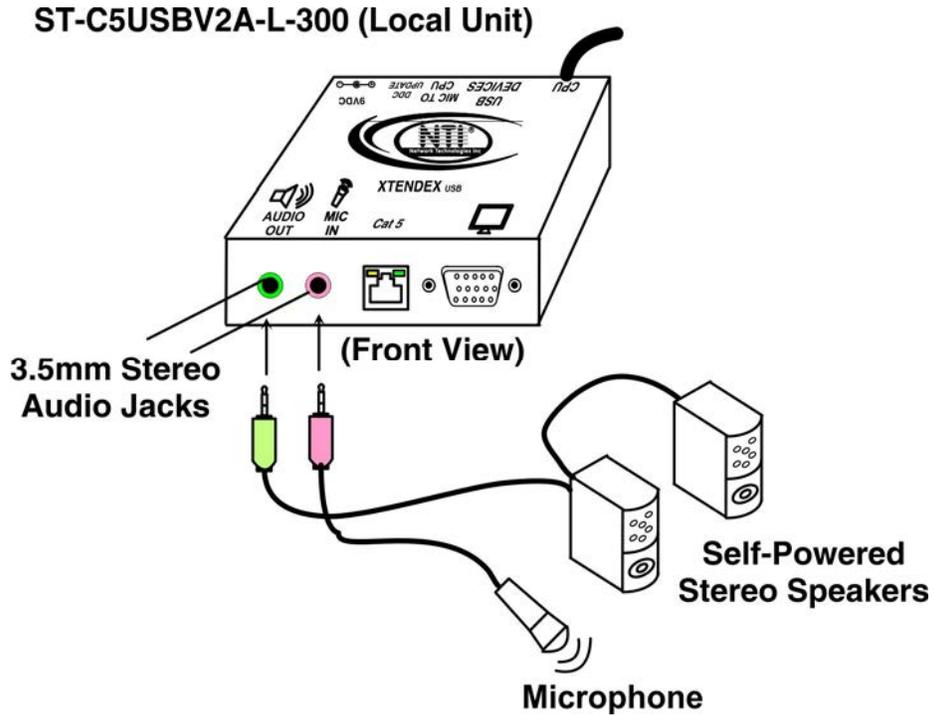

Figure 4- Connect stereo speakers to XTENDEX Local Unit with audio support
3. If the Local Unit has audio support (ST-C5USBVA-300) , connect the cable from the local self-powered stereo speakers to the 3.5mm stereo audio “AUDIO OUT” jack on the Local Unit. (See Figure 4)